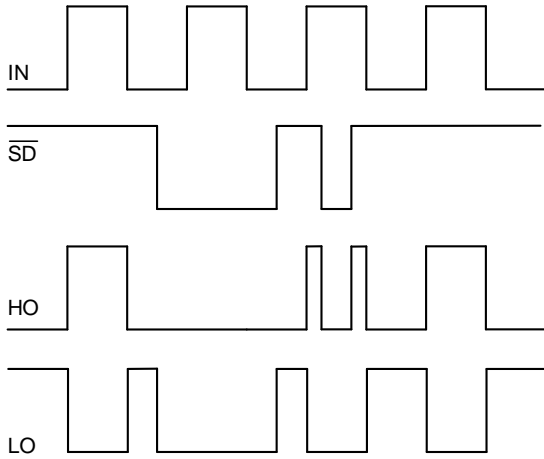

Figure 1. Input/Output Timing Diagram
**Note:** The input/output logic timing diagram is shown in Figure 1. For proper operation the device should be used within the recommended conditions. The VS offset rating is tested with all supplies biased at a 15 V differential.
Page 1	Removed "Figure 1." and "May 2019"